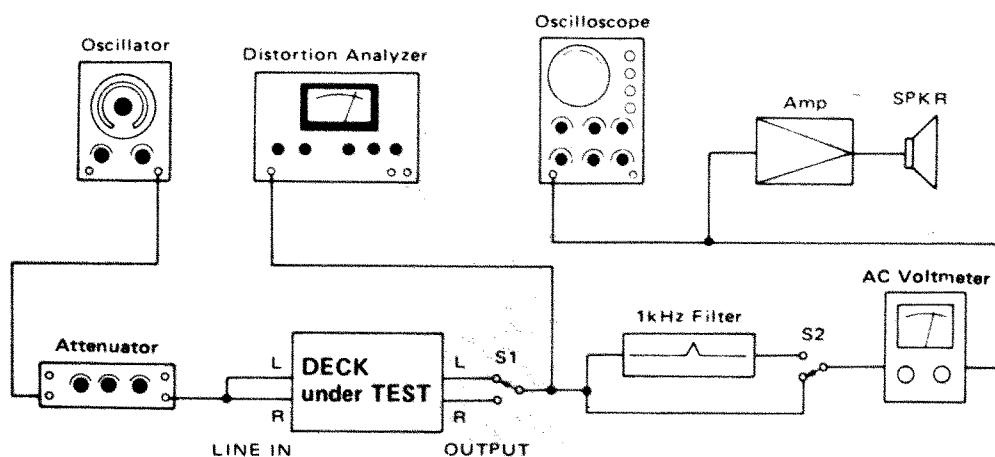

Fig. 5-1 Basic test setup
14. Erase efficiency 消去効果	Connection is same as in Fig. 5-1, but engage 1-kHz filter. Record a 1-kHz signal. Rewind tape to midpoint of recorded portion. Erase the recorded portion with no input signal. Find the difference between the 1-kHz portion and the "no-signal" portion. 接続Fig. 5-1.1kHz B.P.F.使用、1kHz信号を録音後中間まで巻戻し一部を消去、未消去部分と消去部分の1kHz出力レベル差を測定。
15. Channel separation チャンネル・ セパレーション	● Connection: Fig. 5-1, but do not connect LINE IN (R), and engage 1-kHz filter. ● Set the deck to record mode. Find the difference between the 1-kHz recorded portion (L-ch) and the "no signal" portion (R-ch). R-ch無接続、1kHz B.P.F.使用、1kHz録音部分(L-ch)と無信号録音(R-ch)の1kHz再生出力レベルの差を測定。
16. Adjacent track crosstalk トラック間クロストーク	● Connection: Fig. 5-1, but do not connect LINE IN (L) and OUTPUT (L). ● Record a 125-Hz signal on R-ch and note output level. Invert tape and play R-ch track. Check leakage level against the output reference of previously recorded portion. L-ch無接続. R-chに125Hzを録音し、その再生出力を基準レベルとする。次にテープを反転し、再生したときのR-ch出力レベルとの差を測定。
17. REC MUTE function REC MUTE効果	Connection: Fig. 5-1, but engage 1-kHz filter. Record a 1-kHz signal. Push REC MUTE button for several seconds. (At this time, make sure LED lights). Rewind and play the tape. Find the difference between the 1-kHz portion and the "no-signal" portion. 1kHz B.P.F.使用. 1kHz信号を録音し、途中REC MUTE鈕を押し無信号部を作る。そのテープを再生し、録音部と無信号部の出力レベル差を測定。